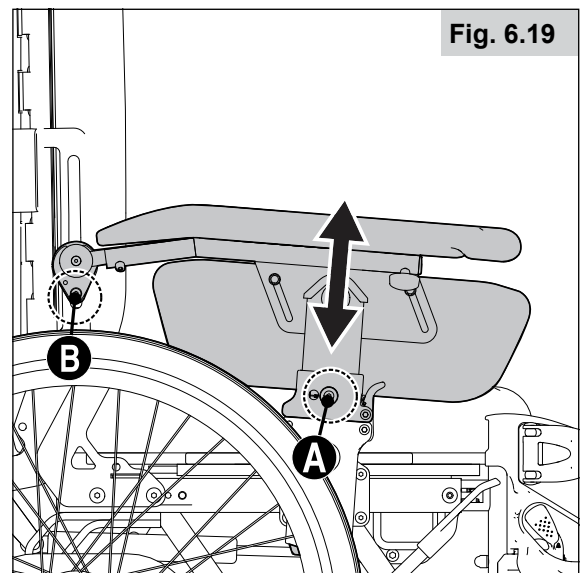

Fig. 6.19
6.18 Adjusting the height of the armrests (Fig. 6.19)